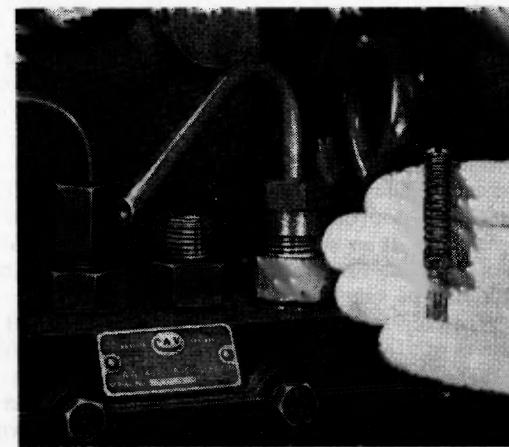

Fig. 36
- (3) Disconnect the pressure pipe from No. 4 delivery valve holder. Unscrew the valve holder and remove the delivery valve, spring, and peg.
- (4) Reconnect the delivery valve holder and fit spill test pipe 18G501 (see Fig. 36).